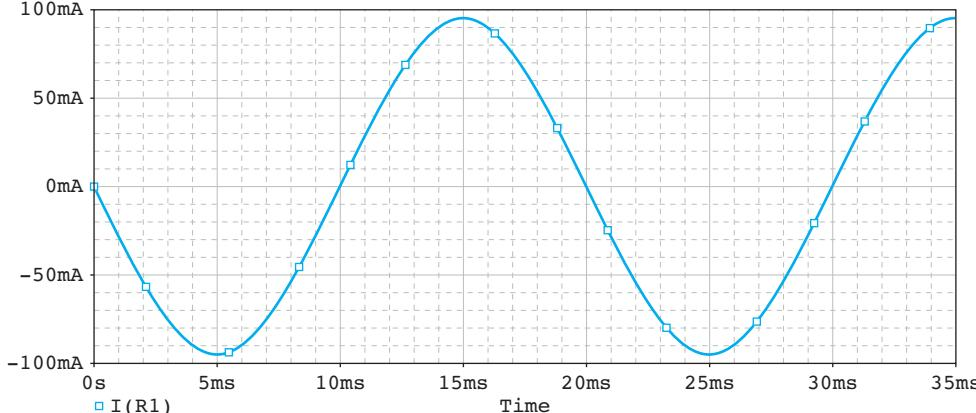

FIGURE 2.81
e. The plot will be saved as shown in Figure 2.81.